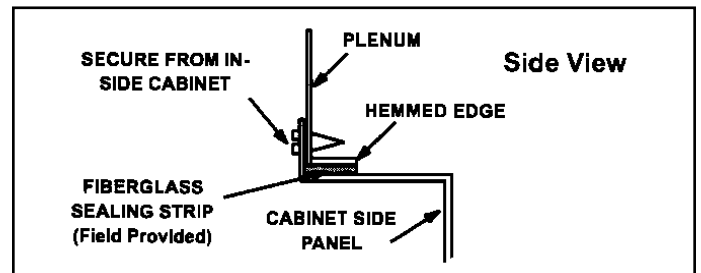

Figure 11.
4. In closet installations, it may be impossible to install sheet metal screws from the outside. In this case, make plenum with a removable front and install screws from the inside. See Figure 11.